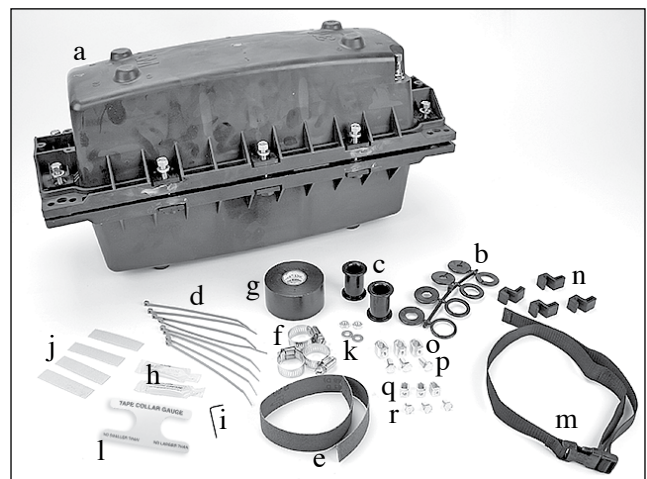

Figure 3
4.3 3M™ Fiber Optic Splice Closure 2178-LL and 2178-LL/FR Kit Contents (Figure 3):